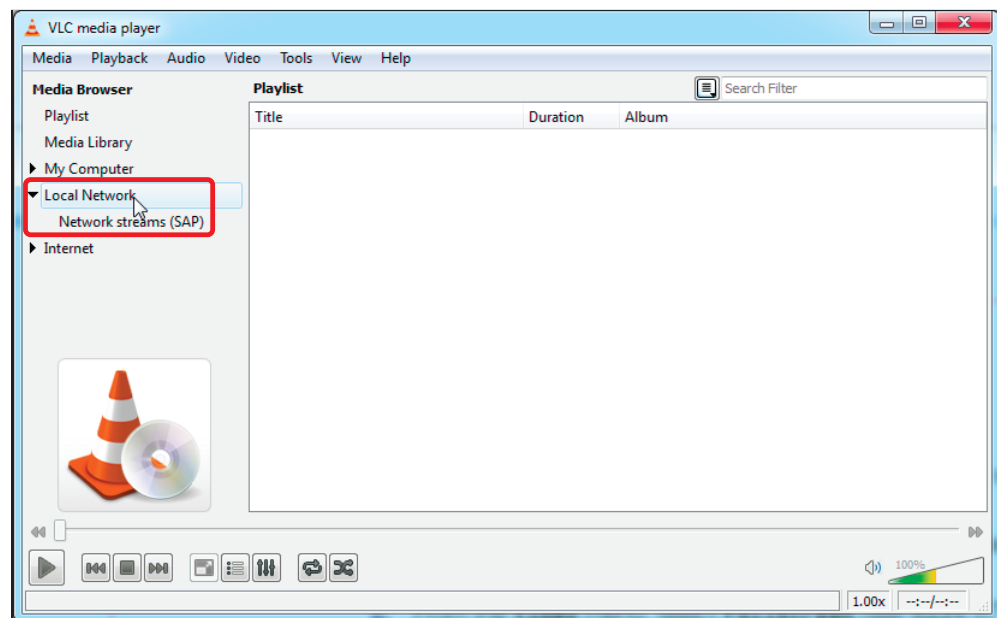

Figure 82. Select Local Network Streams
2. From the left menu column, select **Local Network**, then select **Network streams (SAP)** (see figure 82).